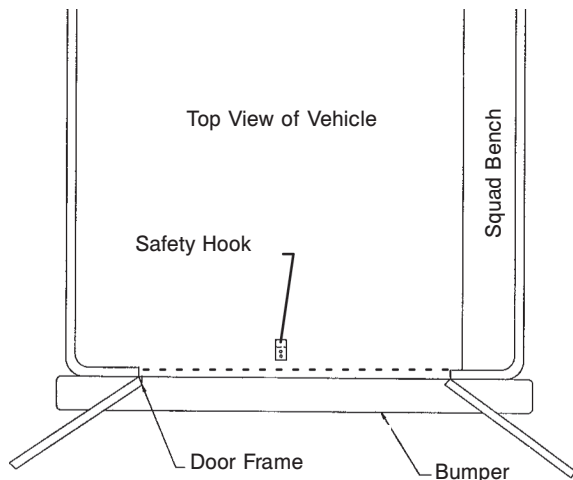

Figure 10 - Safety Hook Placement
3. Mark the center of the cot safety bar on the vehicle floor (see Figure 10).